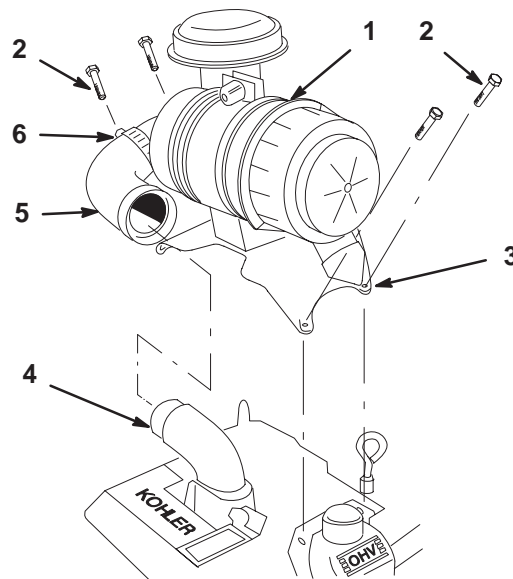

Figure 7
- Remove air cleaner from crate. Keep air cleaner and bracket together. (Fig. 7).
- Remove the top two valve cover mounting screws from both valve covers (Fig. 7).
- Place air cleaner onto engine and align holes in air cleaner bracket with holes in valve covers (Fig. 7).
- Install valve cover screws into air cleaner bracket and valve covers (Fig. 7).
- Remove plastic plugs from air intake elbow on engine and air cleaner hose (Fig. 7).
- Install hose to air intake elbow on engine and air cleaner. Tighten hose clamps to secure the hose connections (Fig. 7).